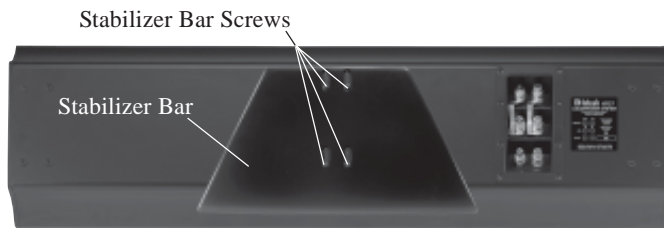

Figure 10
- Remove the four screws securing the Stabilizer Bar to the back of the XR27 Loudspeaker System. Refer to figure 10.